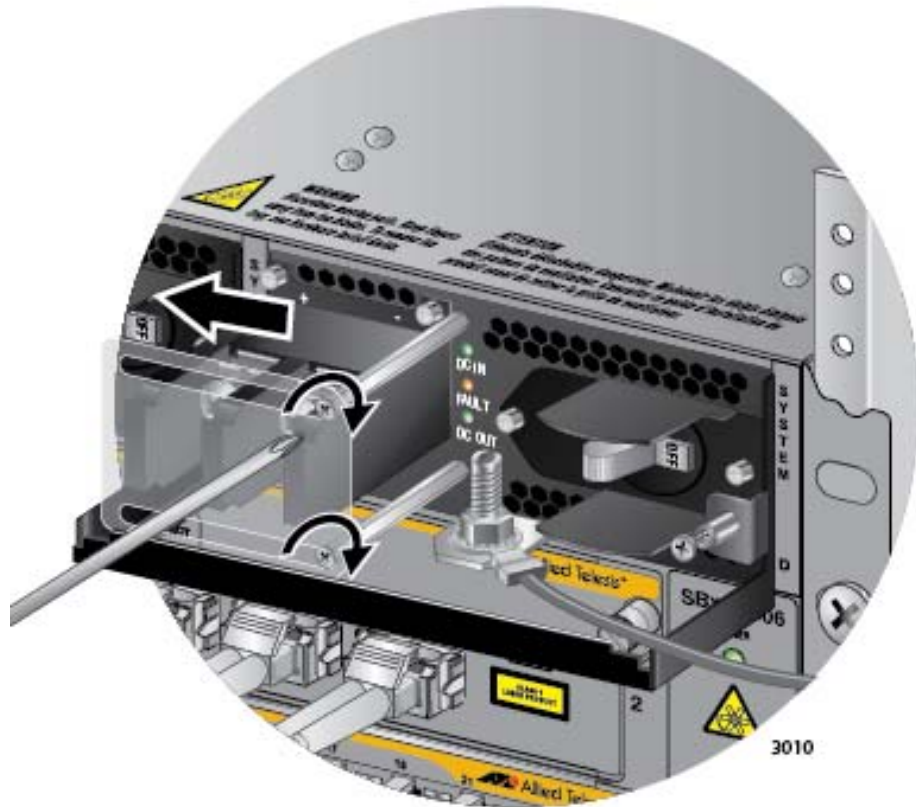

Figure 175. Closing the Plastic Cover
8. Slide the plastic cover to the left and lightly tighten the two screws to secure it in place. Refer to Figure 175 on page 278.